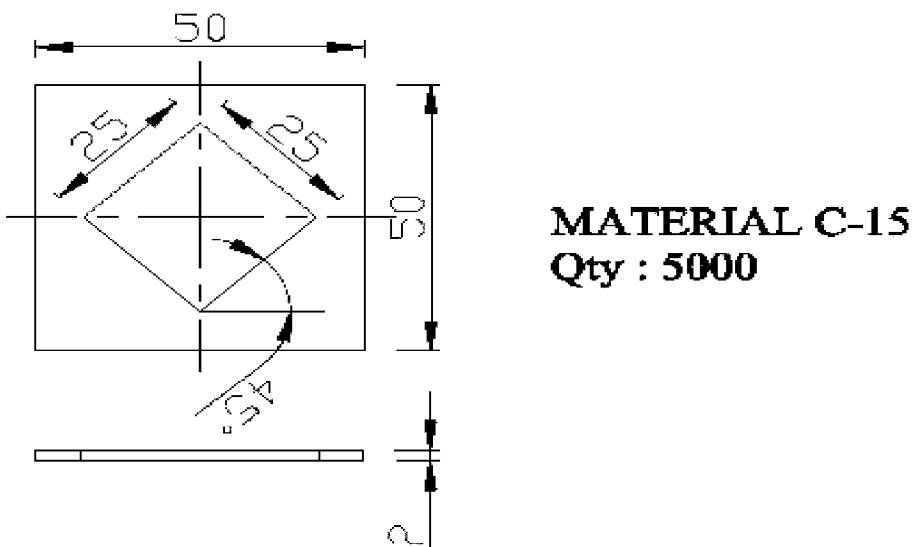

Fig: 1 Que : 5
- Q.5** (a) Design and draw suitable die assembly for component shown in Fig 1 show nessary calculation, scrap strip layout and percentage stock utilization.Also draw its important components with dimension. Take $f_s = 400 \text{ N/mm}^2$ **14**